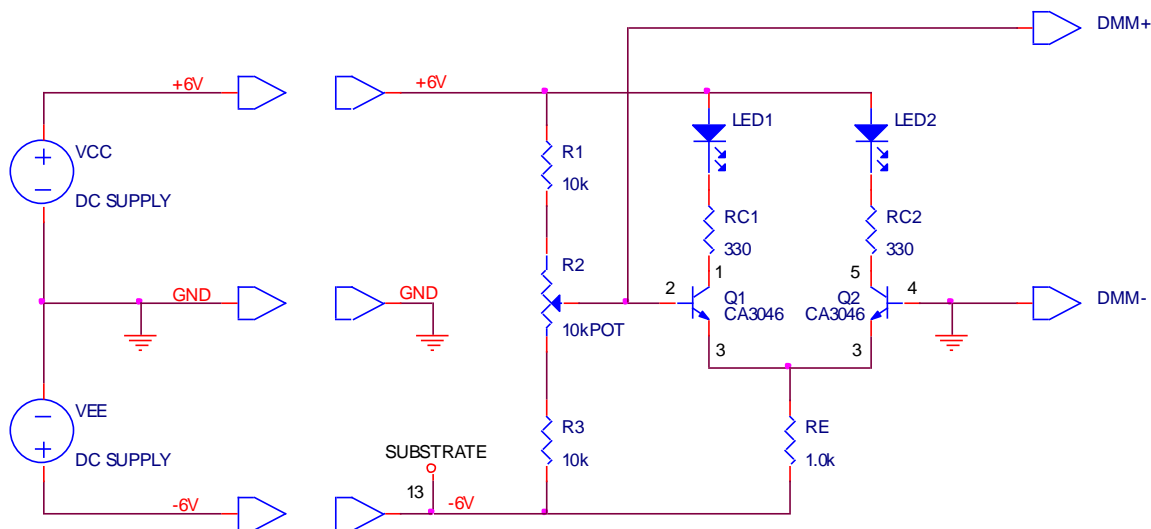

Figure E3.4
**Set-Up** Construct the circuit shown in Fig. E3.4 on your solderless breadboard using the following components:
Configure a dual DC power supply to implement the  $V_{CC} = +6.0$  V and  $V_{EE} = -6.0$  V DC power supply rails, as shown in Fig. E3.4. Use a pair of squeeze-hook test leads to connect the output of the power supply to your breadboard. Turn the DC power supply ON and initially adjust its outputs to  $\pm 6.0$  V, measured relative to the center ground terminal. This center ground terminal is the system ground. Connect a bench DMM to measure the voltage applied to the base of Q1 by the R1-R2-R3 voltage divider.